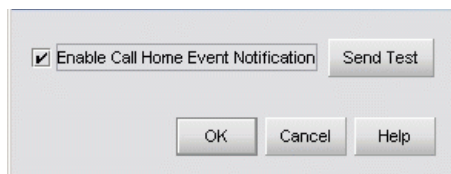

Figure 26: Call Home Event Notification Setup dialog box
2. At the HAFM or EWS main window, select the **Event Notification** and **Call Home** options from the Monitor menu. The Call Home Event Notification Setup dialog box displays (Figure 26).